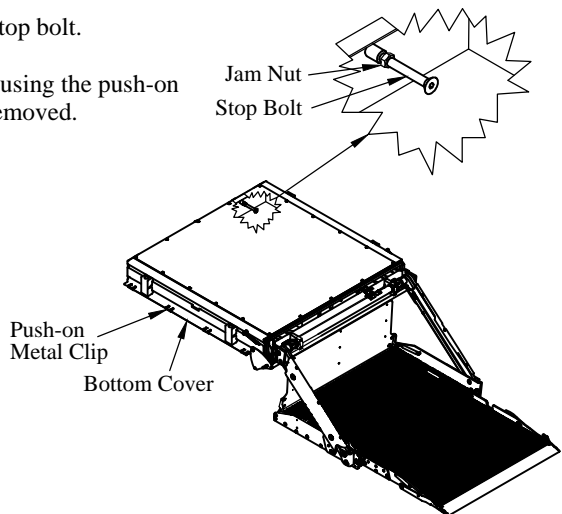

Figure 10: Platform retract limit adjustment.
3. **Remove** the bottom cover of the liftgate (Figure 10).